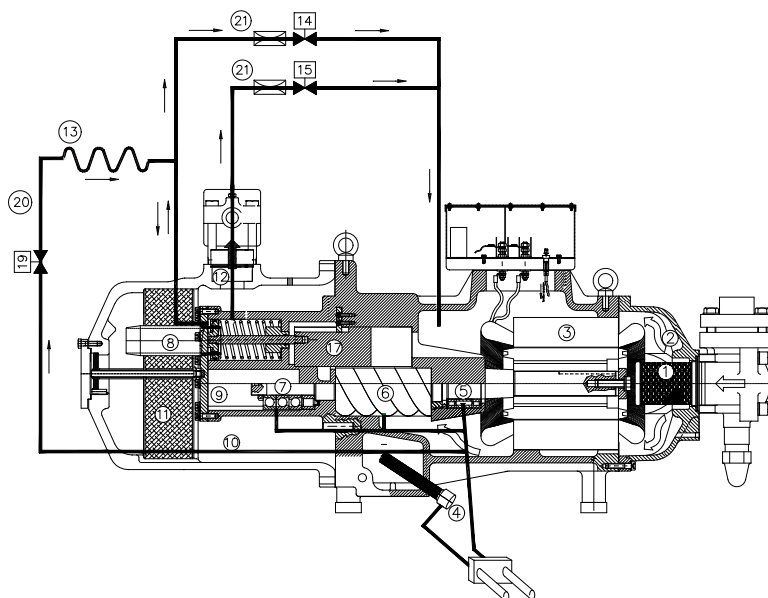
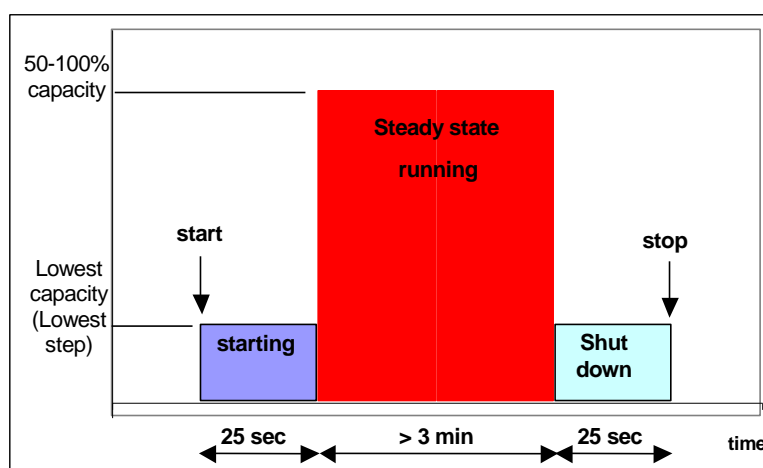

Fig. 20: infinite capacity control oil circuit (step less configuration)
Fig. 24: starting and stopping the compressor;
The oil channels must be throttled to achieve slower motion and more accurate positioning of the control piston. With reference to the Fig. 20, the load channel (20) can be throttled by installing a modified capillary tube or a reduced orifice (13). The unload channel (14) or (15) can be throttled by installing an orifice (21) upstream the solenoid valve.
To limit the peak current when starting, the electric motors are started in the part-winding configuration, or alternatively with the windings connected in the star configuration (see chapter 6: 'Electrical devices'). This, however, means also a drop in the starting torque, and as a result the resisting torque needs to be reduced in order to start the compressor without excessively overloading the electric motor. For this purpose, RefComp recommends to start the compressors at the minimum capacity step, see Fig. 24.
In the infinite configuration, on the other hand, this pipe is closed by the solenoid valve (19), see Fig. 20, which is normally closed. Consequently, unless the solenoid valve (14) is energized before stopping, the oil cannot flow out of the cylinder and as a result the compressor is not discharged. For this reason, so as to stop and re-start the compressor at the minimum capacity step the valve (14) must be energized for around 25 seconds before switching off the compressor, see Fig. 24. Moreover the valve (14) should be kept energized during the compressor standstill periods.
The starting and stopping procedure indicated in Fig. 24 has to be followed for all the screw compressors, both in the step and in the stepless version, as this avoids noisy stopping due to the temporary reverse rotation with high mass flow.